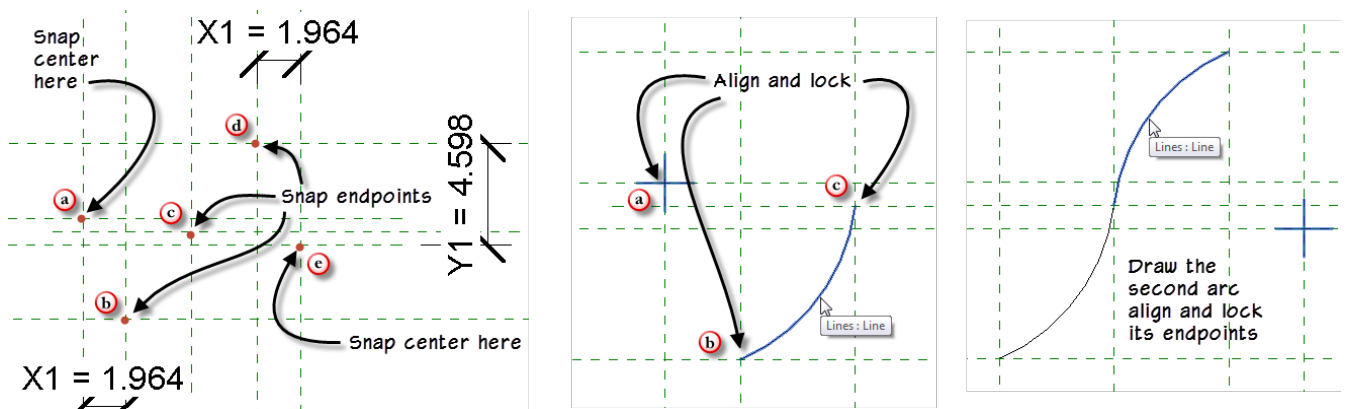

Figure 37—Draw the curves
9. Snap the one endpoint to the intersection of the Center (Front/Back) and Center (Left/Right) reference planes and the other to the intersection at X Mid and Y Mid (see the small dots at locations **a**, **b** and **c** on the left side of Figure 37).
11. Align and lock the center point and each arc endpoint to the reference planes in both directions (6 alignments total) (see the middle of Figure 37).
13. Turn on the center mark and align and lock all points (see the right side of Figure 37).